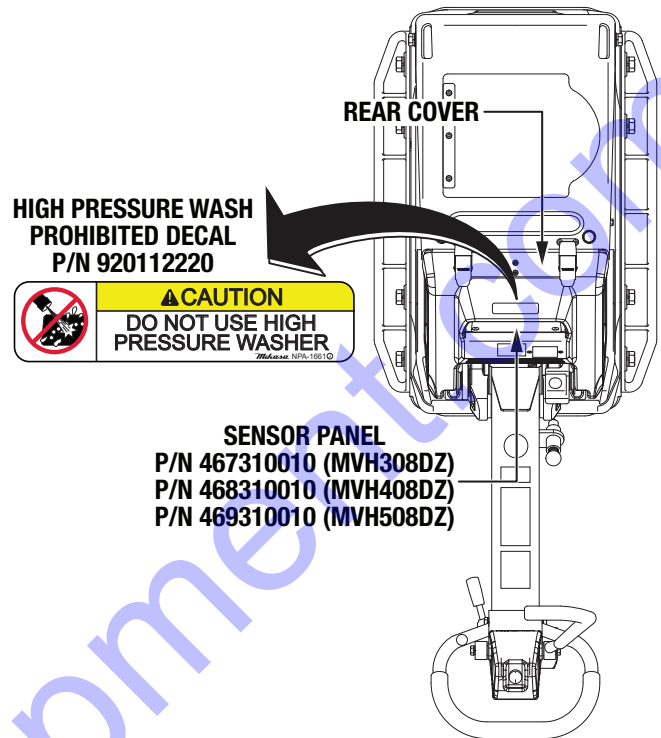

Figure 36. Decal Placement
5. Carefully remove the backing from the High Pressure Wash Prohibited decal (P/N 920112220). See Figure 36.
6. Place the High Pressure Wash Prohibited decal (P/N 920112220) onto the top of the rear cover, just above the sensor panel (P/N 467310010 [MVH308DZ], P/N 468310010 [MVH408DZ], or P/N 469310010 [MVH508DZ]). **MAKE SURE** the decal is oriented straight and flat. See Figure 36.